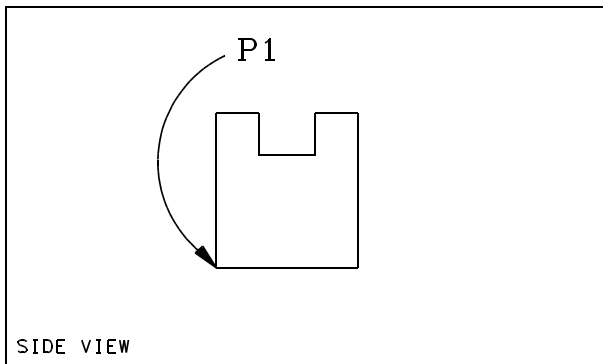

Figure 2
5. Click on point P1, the first point of the line, to close the polygon. (See Figure 2.)